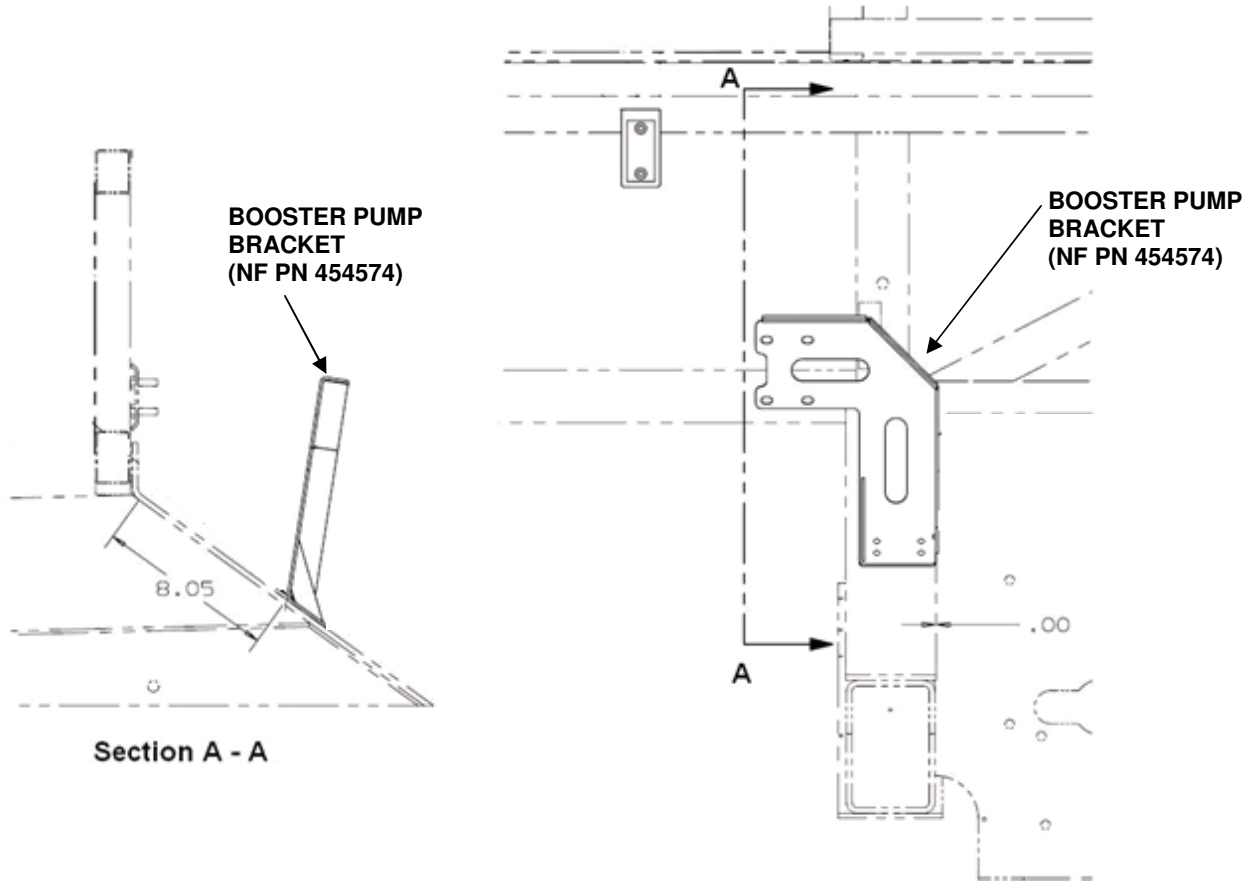

Figure 3: Placement of New Booster Pump Bracket
- b. Place the new booster pump bracket (NF PN 454574) in place where the previous one was removed from using dimensions shown in Figure 3 and mark the centers of the four mounting holes.